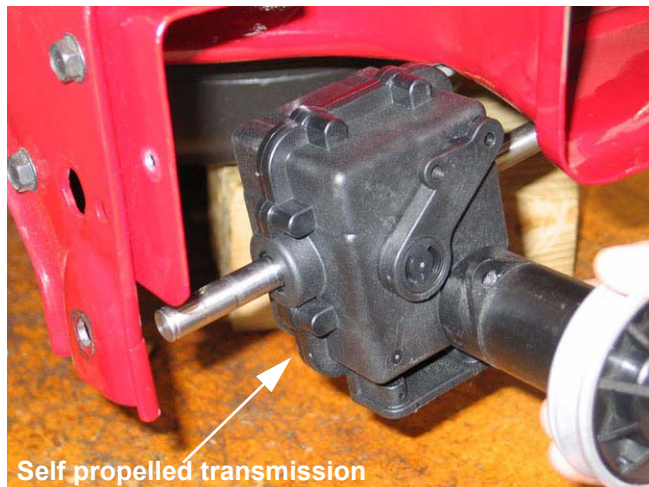

Figure 3.19
- 3.19. Pivot transmission rearward while sliding it to the right. See Figure 3.19.